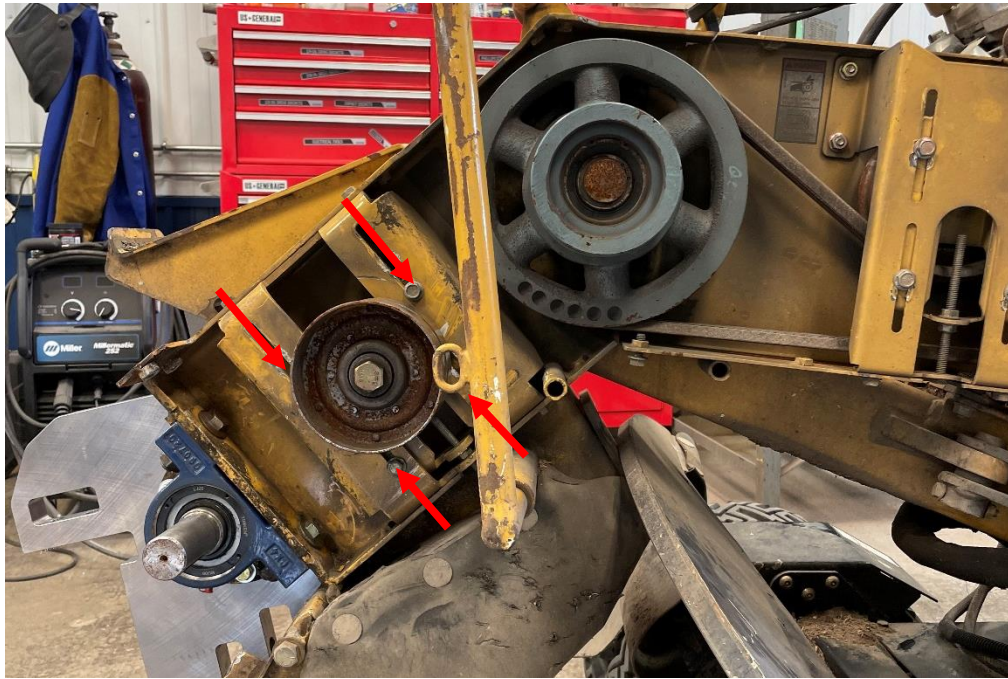

Figure 1.3
3. Loosen (4) belt tensioner pulley assembly bolts. (Figure 1.3)